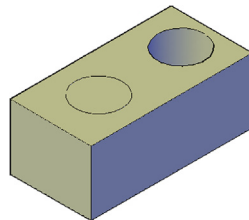

FIGURE 25.18
Step 2. You are prompted for a base point to copy *from* and a second point to copy *to*. However, you have to be careful how you apply this command. If you copy the extruded hole, the new hole is not a solid and cannot be subtracted. What you get is shown in Figure 25.18.